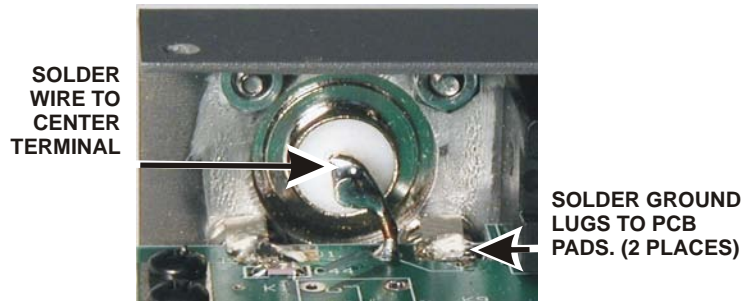

Figure 33. Antenna Connection J1 Installation.
- Solder the two ground lugs on antenna connector J1 to the PCB (See Figure 33).
- Bend the 16 gauge wire you previously soldered in the PCB antenna pad so that it rests against the antenna connector center terminal, then solder. Keep this lead as short as possible as shown in Figure 33. Trim off excess wire.